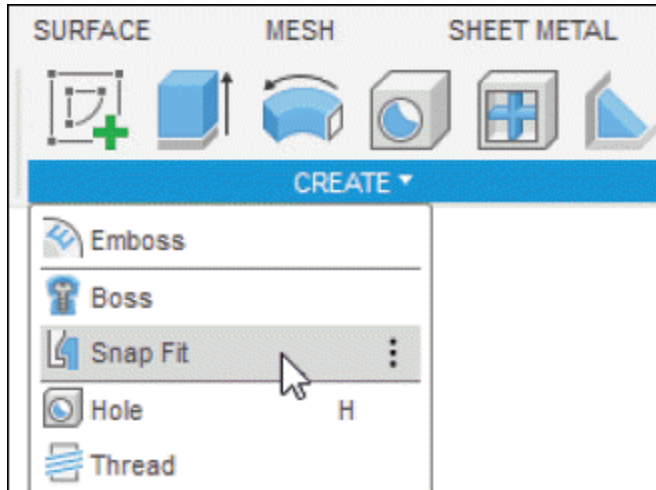
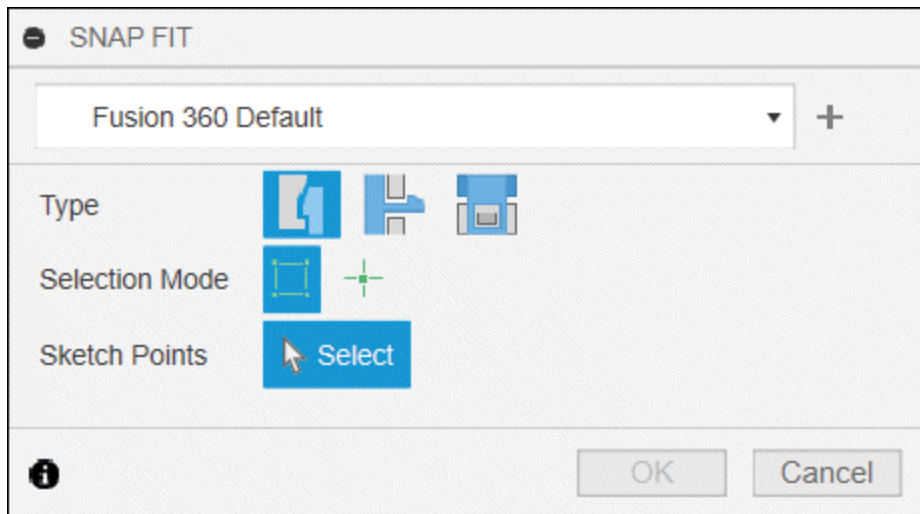

Figure-146. Snap Fit tool
Figure-147. SNAP FIT dialog box
- Click on the **Snap Fit** tool from **CREATE** panel in the **PLASTIC** tab of the **Toolbar**; refer to Figure-146. The **SNAP FIT** dialog box will be displayed as shown in Figure-147.